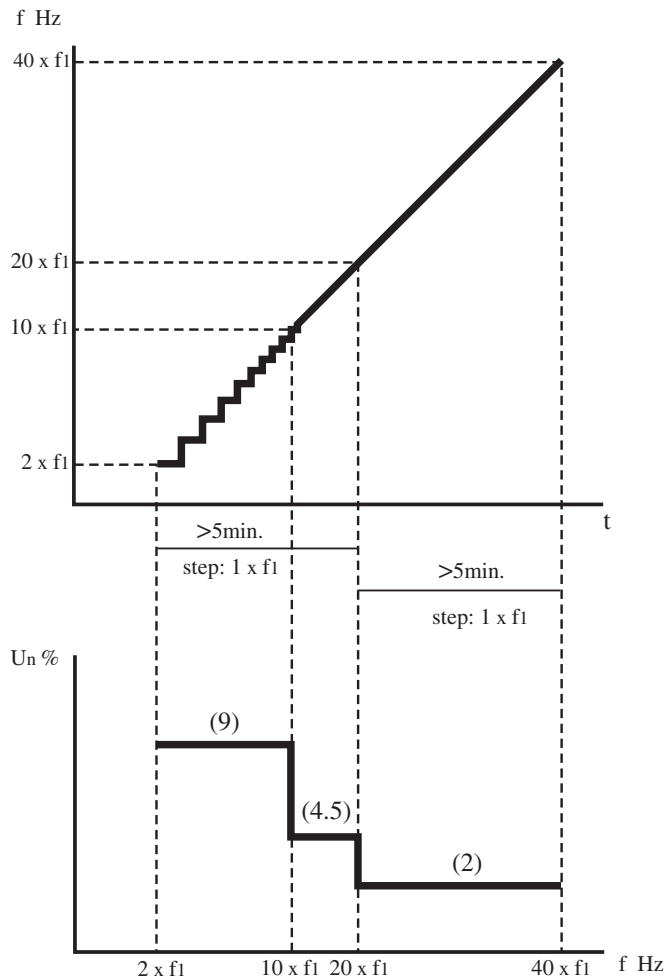

Fig. 4-4 Example of Sweep in Frequency
- As shown in Fig. 4-4, the sweep frequency step is an integral multiple of the fundamental frequency. Because the frequency changes significantly, compared with the standard's requirements, this feature can be used only in preliminary tests.